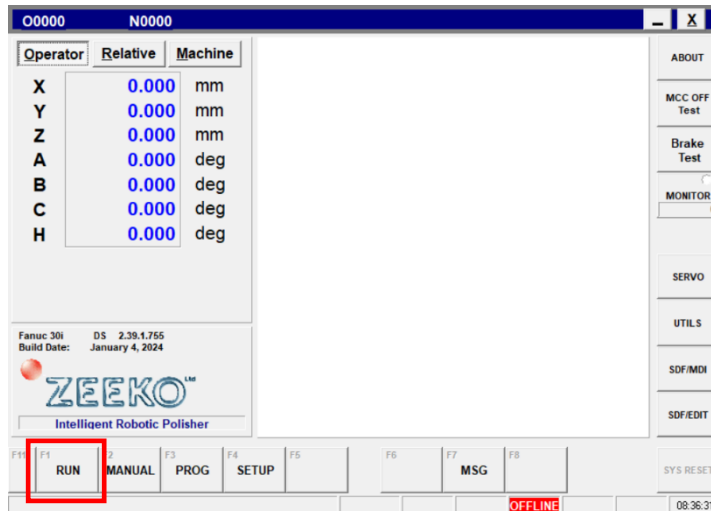

Figure 29 - Main screen - Run option
- A variety of pre-defined CNC programs are available to the Operator from the “RUN” page: See (Figure 29 - Main screen - Run option).